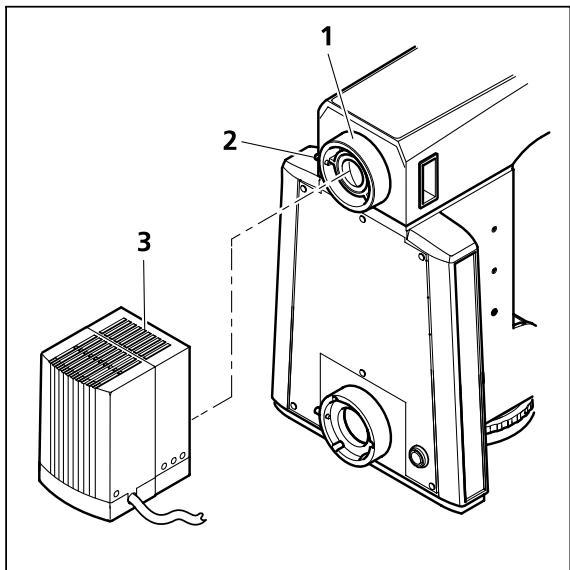

Fig. 3-31 Mounting the HBO 100
- Remove the cover from the reflected light connection piece (Fig. 3-31/1).
- Insert the lamp case (Fig. 3-31/3) with the dovetail ring into the reflected light connection piece (Fig. 3-31/1) on the back of the unit. Tighten the clamping screw (Fig. 3-31/2) with the ball head screwdriver SW 3.